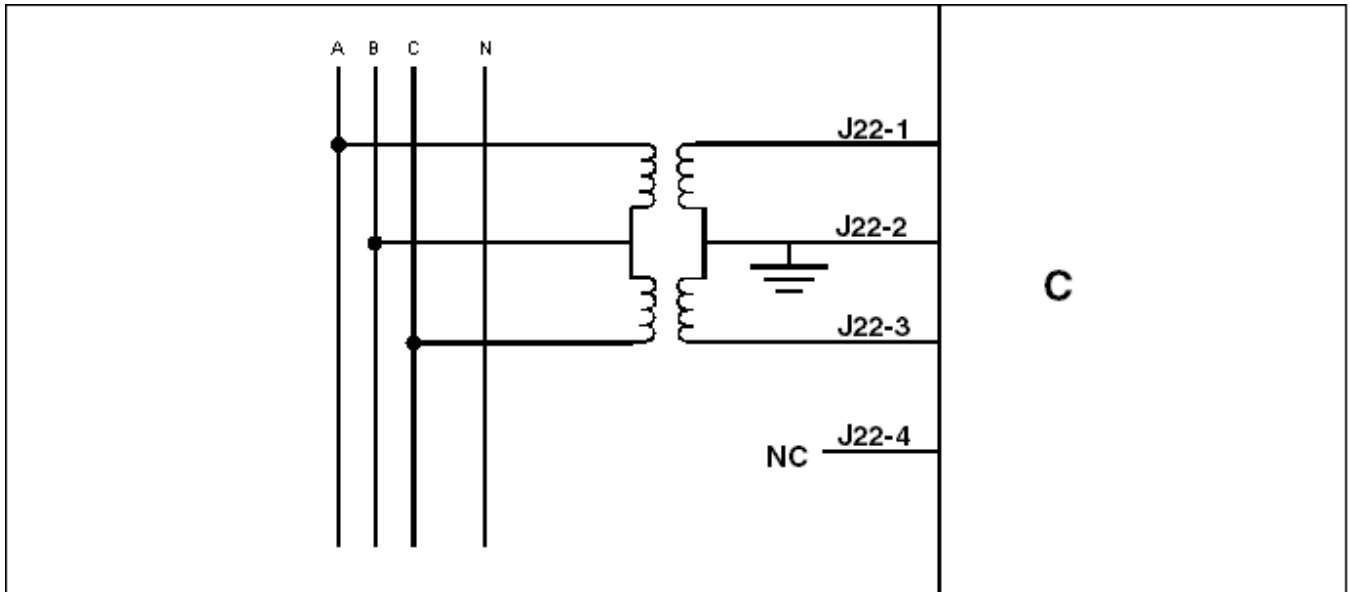

FIGURE 80. POTENTIAL TRANSFORMER CONNECTIONS IN 3-WIRE CONNECTIONS
- Figure 80. Potential transformer Connections in 3-wire Connections 455